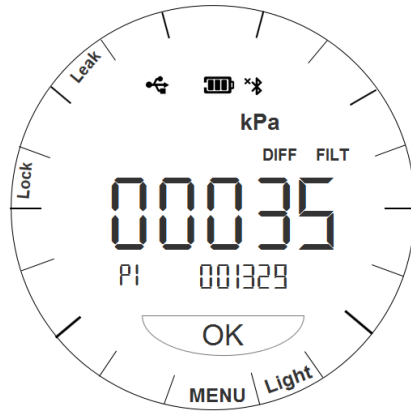

Figure 8 Pressure leak test finish interface
2.6.3 When the pressure leak test operation is finished, as shown in Figure 8, the **DIFF** icon appears in the identifier area and the differential pressure value is displayed in the main display area. Click the sub display area to switch between the start pressure value P1 and the end pressure value P2.